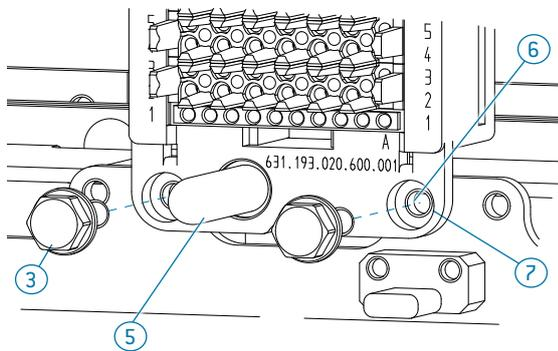

Fig. 73
- ▶ Make sure the guiding pins ④ ⑤ on the connector are facing the mating direction.
- ▶ Position the edge with the two guiding pins ④ at the top. Take note of the slot label at the top.
- ▶ Align the holes in the connector ⑦ with the threaded holes in the adapter (ITA) ⑥.
- ▶ Use the four screws ③ to secure the connector. Take note of the specified tightening torque.
- ▶ After assembly, the connector ① must be mounted in a floating position (Fig. 73).
- ▶ Please use an appropriate cable length for the cable harness of the connectors ③. To remove the connectors ③ it is necessary to pull these to the front, turn it slightly and push the connector through the receiver.